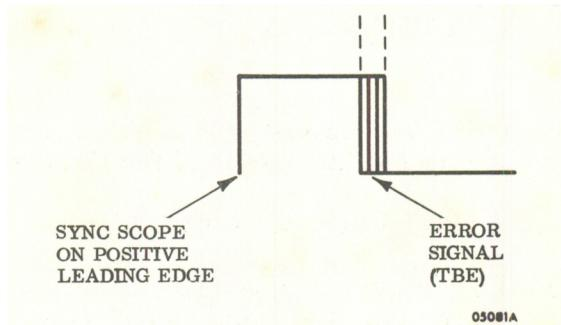

Figure 5.2-8. Typical Time Base Error (TBE)
- h. Set the oscilloscope sweep speed to 2  $\mu$ sec/cm. Synchronize on the leading edge of the positive going signal (+ sync). Display a single waveform on the screen similar to Figure 5.2-8. The trailing edge contains an error signal which represents servo action and, in turn, time base error.